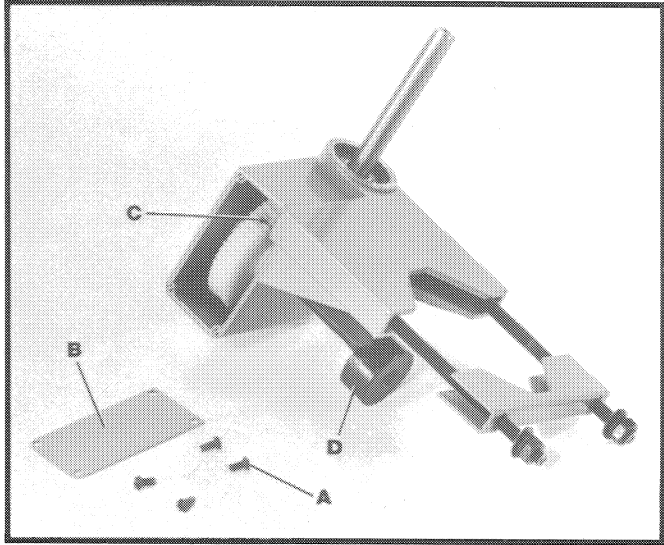

Fig. 3
2. Remove four screws (A) Fig. 3, and remove rear cover (B) from rear of gear box, as shown.
3. Loosen set screw (C) Fig. 3, and push cam (D) in towards gear box.